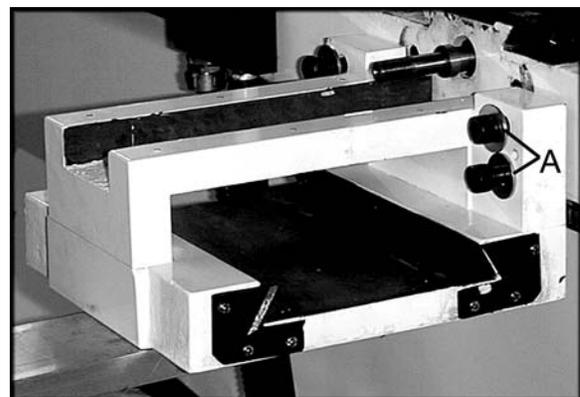

Figure 3
5. Attach the taper attachment main body to the lathe bed with four M10x50 hex socket cap screws and four washers (A, Figure 3). Don't tighten the screws all the way at this time.